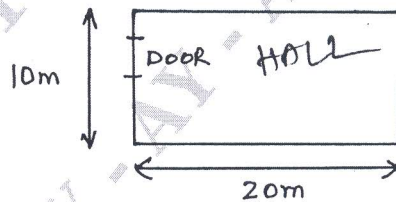

Fig.Q2(b)
- b. Provide a detailed estimate for Hall shown in Fig.Q2(b). Show a neat single line diagram with all required equipments. Use buried conduit type of wiring. Provide a detailed list of materials and show the position of the lights, fans and switch boards. (14 Marks)